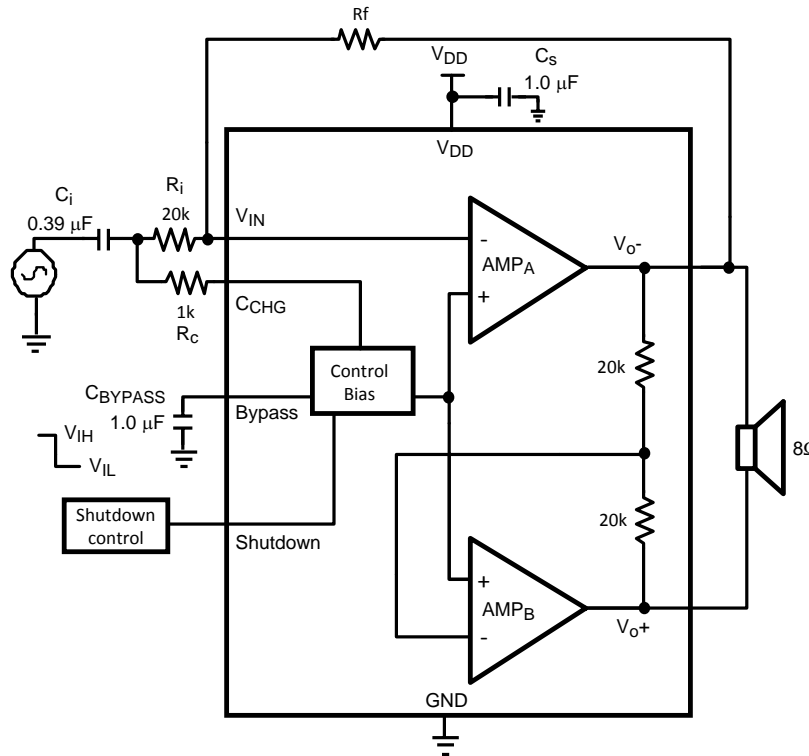

Figure 1. Typical Bridge-Tied-Load (BTL) Audio Amplifier Application Circuit
- (1) “*Absolute Maximum Ratings*” indicate limits beyond which damage to the device may occur, including inoperability and degradation of device reliability and/or performance. Functional operation of the device and/or non-degradation at the s or other conditions beyond those indicated in the *Recommended Operating Conditions* is not implied. The *Recommended Operating Conditions* indicate conditions at which the device is functional and the device should not be operated beyond such conditions. All voltages are measured with respect to the ground pin, unless otherwise specified.
- (2) The *Electrical Characteristics* tables list ensured specifications under the listed *Recommended Operating Conditions* except as otherwise modified or specified by the *Electrical Characteristics Conditions* and/or Notes. Typical specifications are estimations only and are not ensured.
- (3) The maximum power dissipation must be derated at elevated temperatures and is dictated by TJMAX, θJA, and the ambient temperature, TA. The maximum allowable power dissipation is PDMAX = (TJMAX - TA) / θJA or the number given in *Absolute Maximum Ratings*, whichever is lower. For the LM4951A typical application (shown in Figure 1) with VDD = 7.5V, RL = 8Ω mono-BTL operation the max power dissipation is 1.42W. θJA = 73°C/W.
- (4) Human body model, applicable std. JESD22-A114C.
- (5) Machine model, applicable std. JESD22-A115-A.